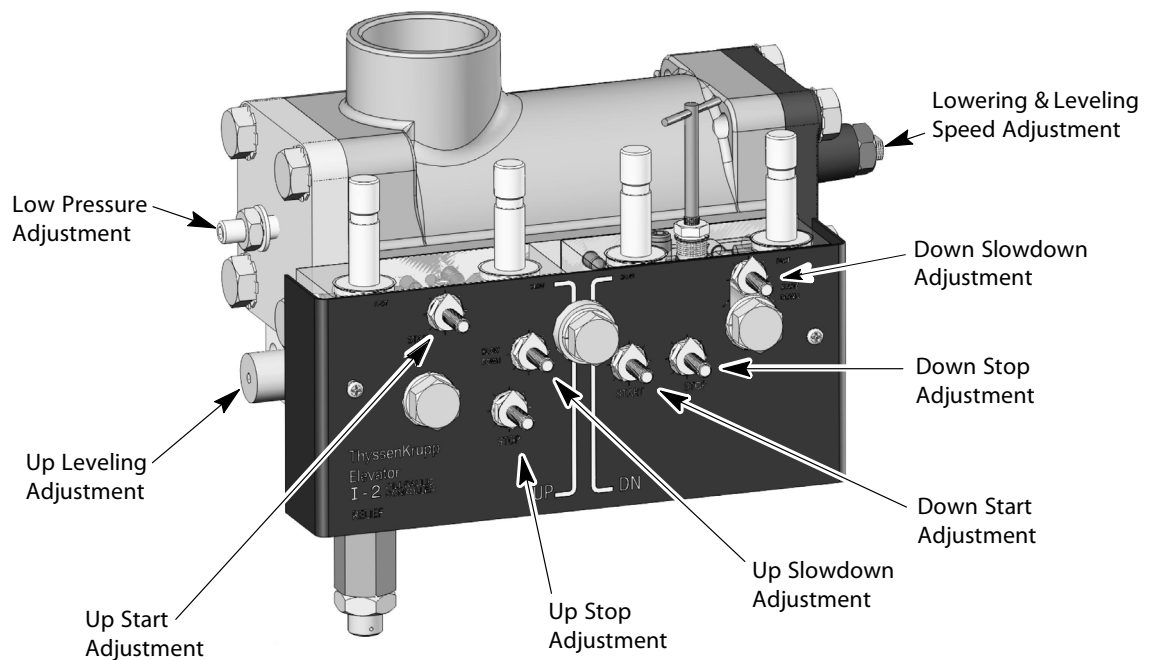

Figure 5 - Slowdown and Leveling Speed Adjustment
1. Turn the up slowdown adjustment OUT ten (10) turns (this action ensures that the car does not initially start up). See Figure 5 on page 12 - 7 for all steps in this procedure.
4. Verify that the down stop adjustment screw has been turned OUT ten (10) turns (this action ensures the car does not initially start down).